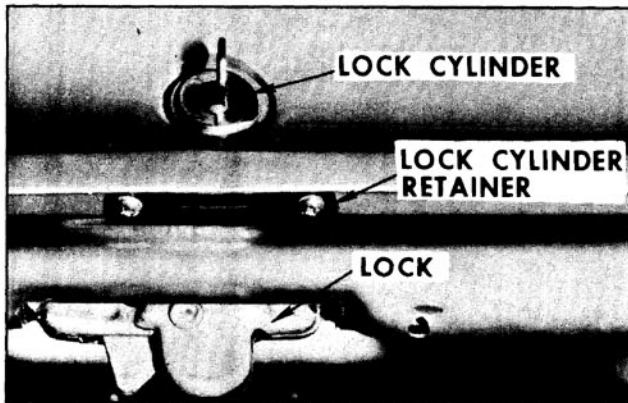

Fig. 16-461 Lid Lock Cylinder
1. Open rear compartment lid and remove lock cylinder retainer attaching screws. (Fig. 16-461)